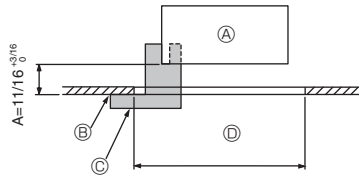
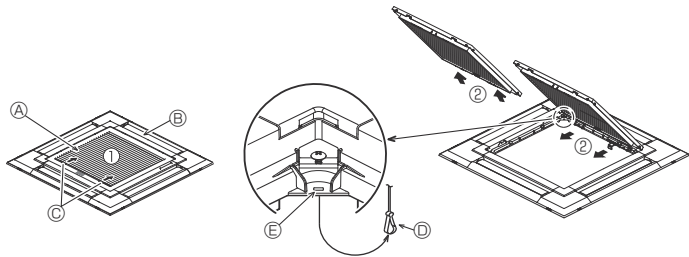
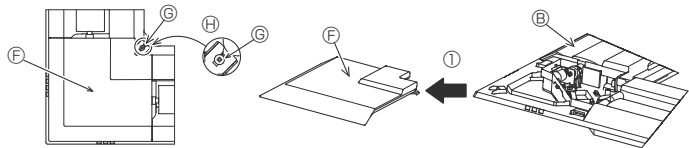

Fig. 9-2
Fig. 9-3
Fig. 9-4
①	Grille	1	950 × 950 (mm), 37-3/8 × 37-3/8 (inch)
②	Installation gauge	1	(Divided into 4 parts)
③	Screw (4 × 16)	1	For PLA-A-EA*
④	i-see Sensor corner panel	1	For PLA-A-EA*
9.2. Preparing to attach the grille (Fig. 9-2)
- With the gauge ② supplied with this kit, adjust and check the positioning of the main unit relative to the ceiling surface. If the main unit is not properly positioned relative to the ceiling surface, it may allow air leaks or cause condensation to collect.
- Ⓒ Installation gauge ② (inserted into the main unit)
9.2.1. Removing the intake grille (Fig. 9-3)
- Slide the levers in the direction indicated by the arrows ① to open the intake grille.
- With the intake grille in the "open" position, remove the hinge of the intake grille from the grille as indicated by the arrows ②.
9.2.2. Removing the corner panel (Fig. 9-4)
- Loose the 4 screws on the corner. Slide the corner panel in the direction of the arrow ① in the figure and remove the corner panel.
[Fig. 9-3] [Fig. 9-4]